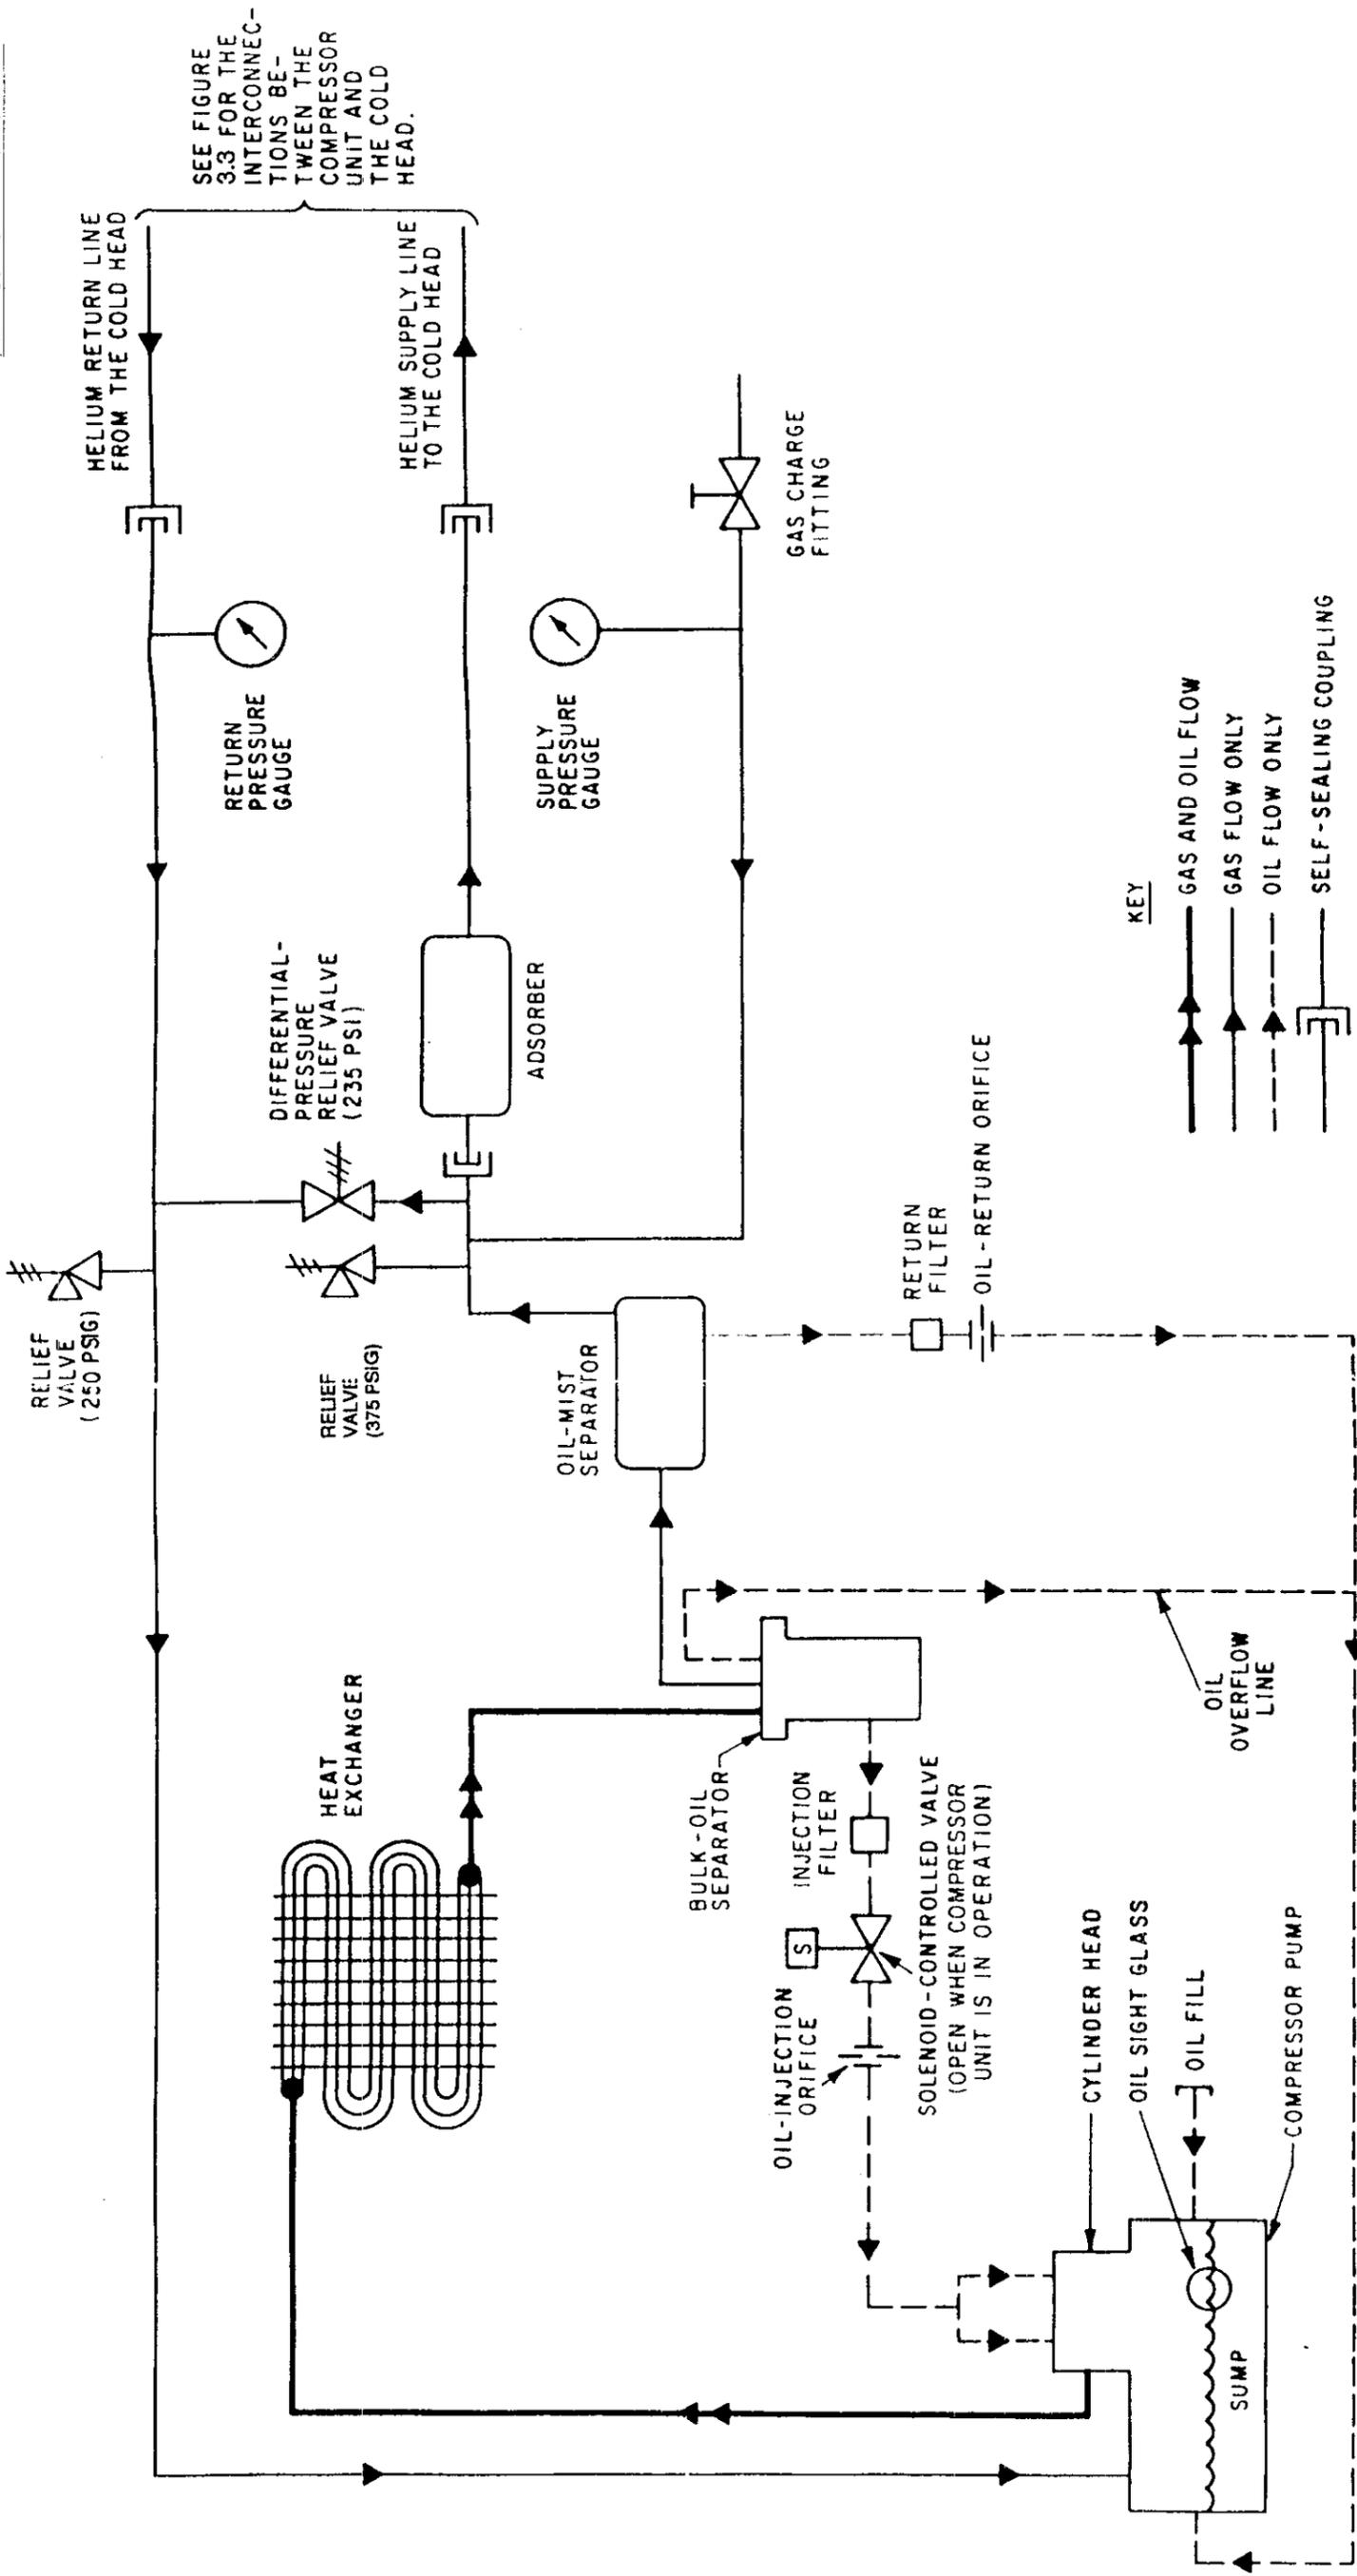

Figure 4.1 Flow diagram for the Model 1020R Compressor
4.2 Gas and Oil Flows in the Compressor (see Figure 4.1)
4.3 Pressure Regulation in the Compressor (see Figure 4.1)